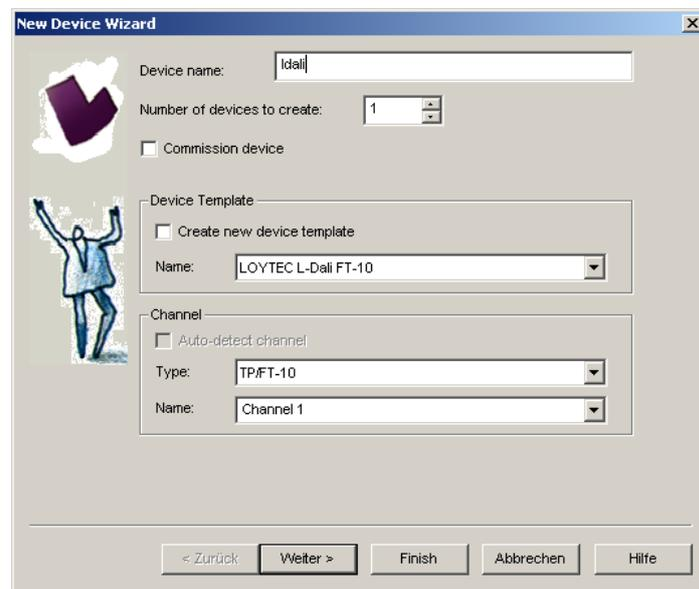

Figure 86: Create a new device in the drawing.
1. In your LonMaker drawing, drag a device stencil into the drawing. Enter an appropriate name as shown in Figure 86.